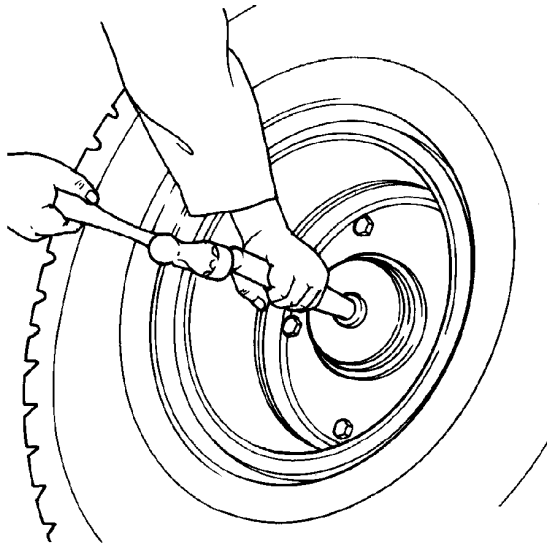

Figure 32 Seating Seal in Hub Bore
5. Hold tool handle straight and firmly, and strike tool handle until the sound of impact changes when seal is seated (Figure 32). Check seal to be sure it is uniformly seated but not crushed. Also check bearing for free movement. Remove excess sealant.